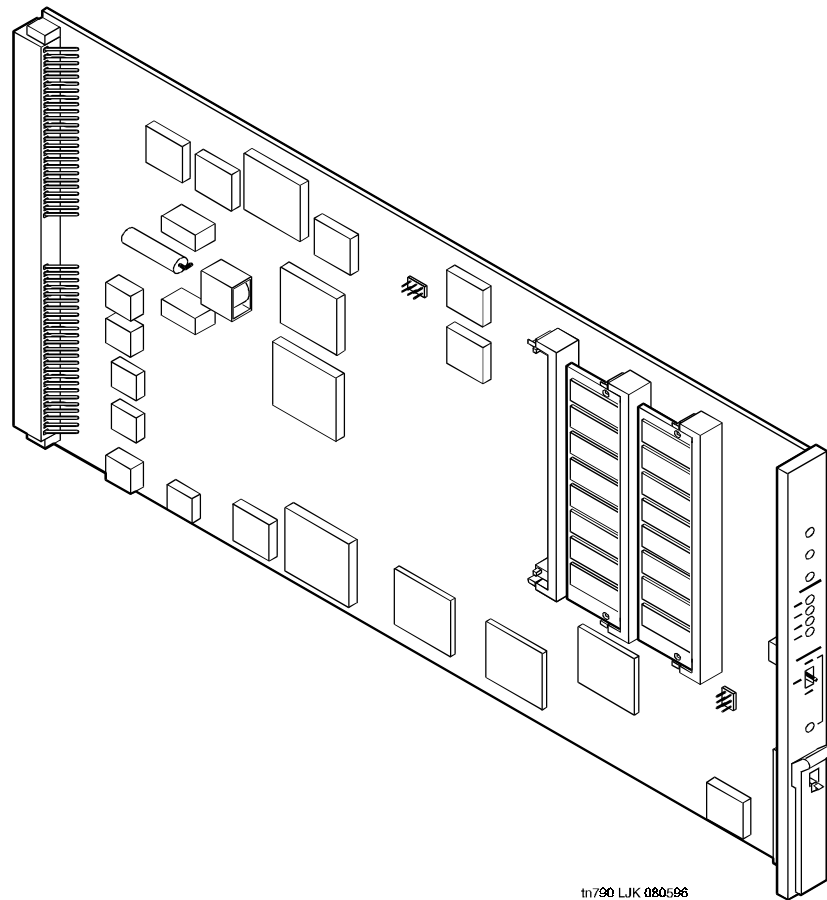

Figure 5-2. TN790 Processor Circuit Pack
2. For a Release 5si system, the TN790 should have two SIMMs. For a Release 5si + memory system, the TN790 should have three SIMMs. See Figure 5-2.
This section describes the procedure of adding additional memory to the TN790 Processor circuit pack. See Figure 5-2 to locate the SIMM sockets.
2. Place the TN790 Processor circuit pack on an ESD-approved work station, such as an anti-static mat, with the SIMM sockets facing up and to the left. See Figure 5-2.